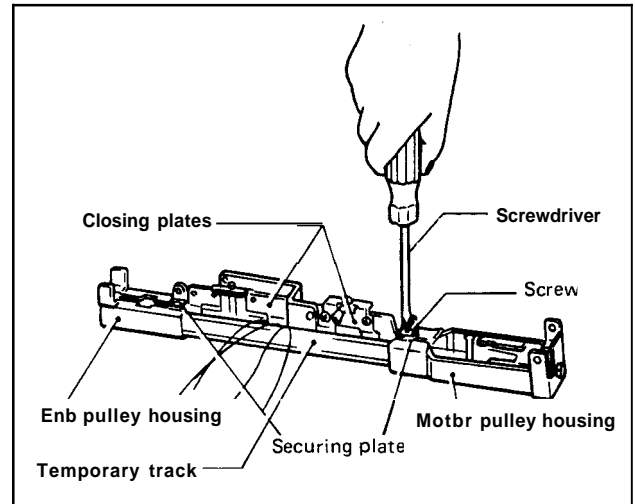

Fig. 2
2. Loosen screws and remove securing plates from each end of the temporary track. (Fig. 2)